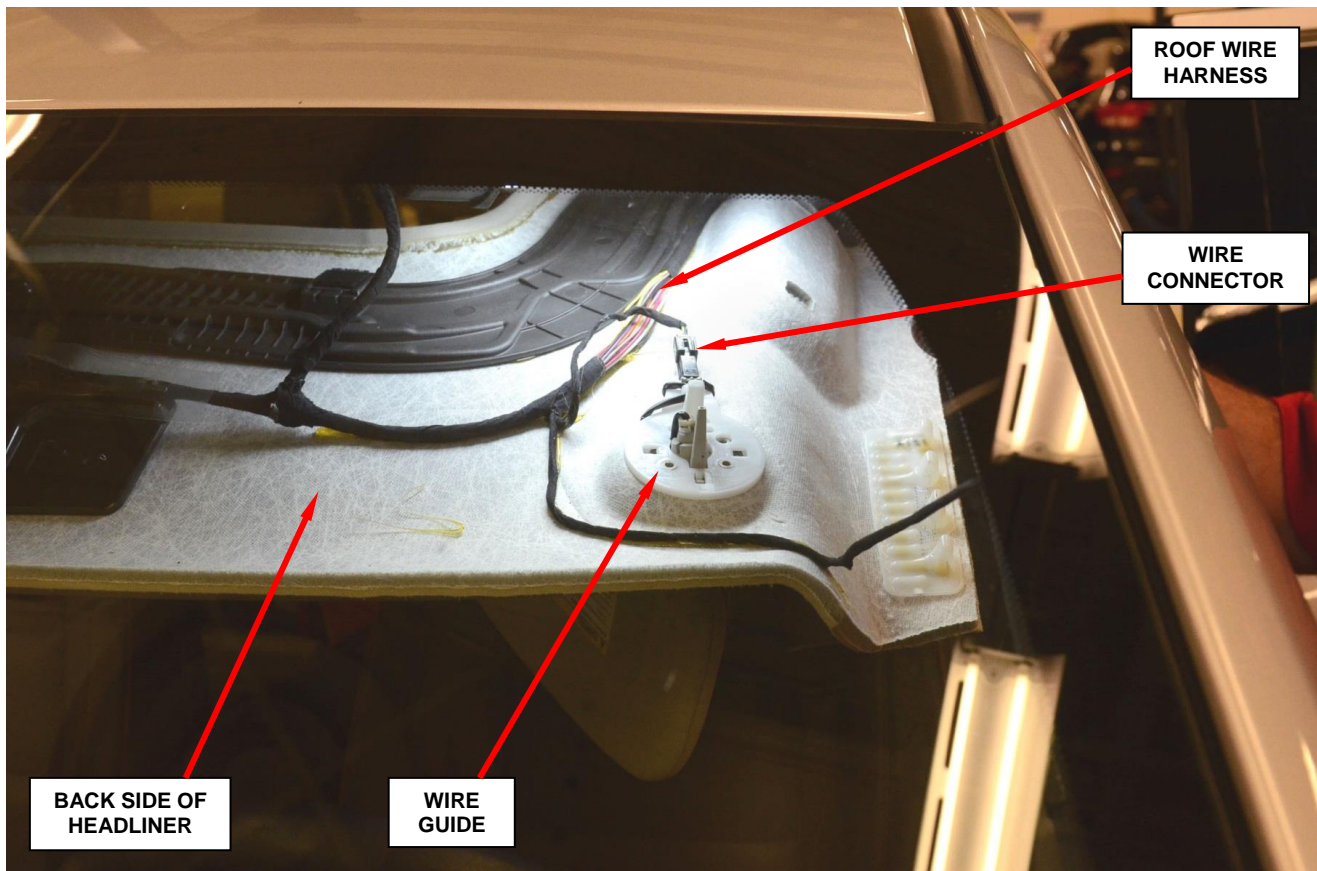

Figure 15 – Wire Guide Connector (viewed through windshield)
32. Connect the roof wire harness connector to the sun visor electrical connector (Figure 15).